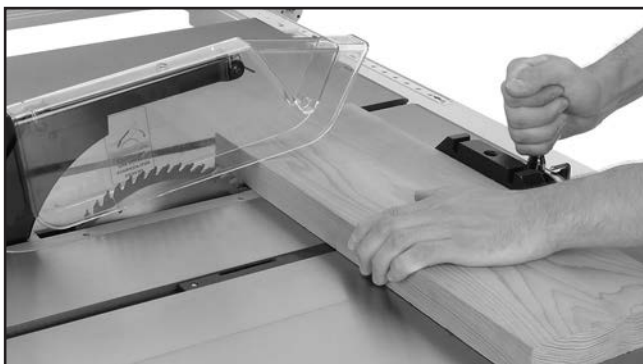

Figure 56. Typical crosscutting operation.
7. Hold workpiece firmly against face of miter gauge (as shown in **Figure 56**), and ease it through blade until workpiece is completely past saw blade.